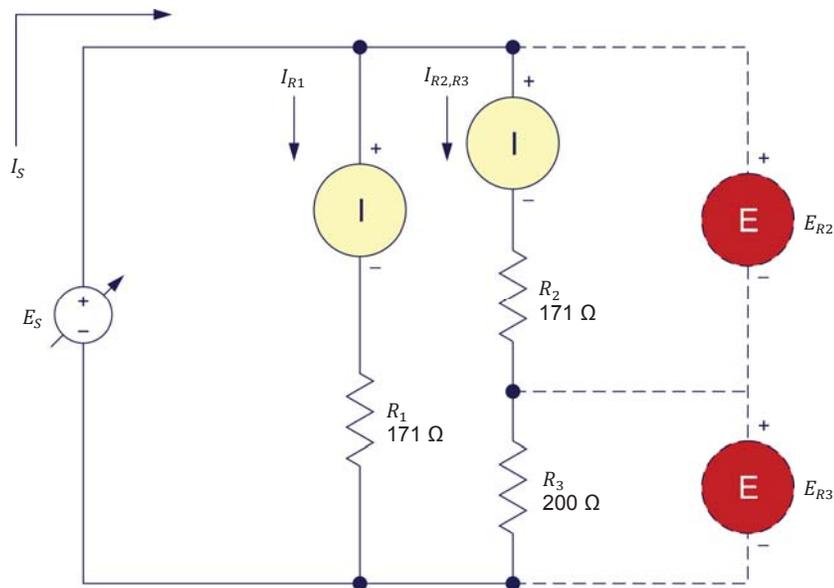

Figure 33. Circuit made of resistors connected in series-parallel.
30. Set up the circuit shown in Figure 33. To obtain the resistor arrangement of Figure 33, make the necessary connections and switch settings on the Resistive Load module.
Set a multimeter to measure dc current and connect it in series with resistor  $R_1$ , as Figure 33 shows.
Set another multimeter to measure dc current and connect it in series with resistor  $R_2$ , as Figure 33 shows.
31. Calculate the equivalent resistance  $R_{Eq.}$  of the resistors in Figure 33. Then, calculate the source current  $I_S$  based on the equivalent resistance  $R_{Eq.}$  and the source voltage  $E_S$  of 50 V.
Set the multimeters to measure dc voltage. As Figure 33 shows, connect a voltmeter across resistor  $R_2$ . Connect the other voltmeter across resistor  $R_3$ .
5. Refer to Figure 33. How can the source current  $I_S$  be reduced by half?